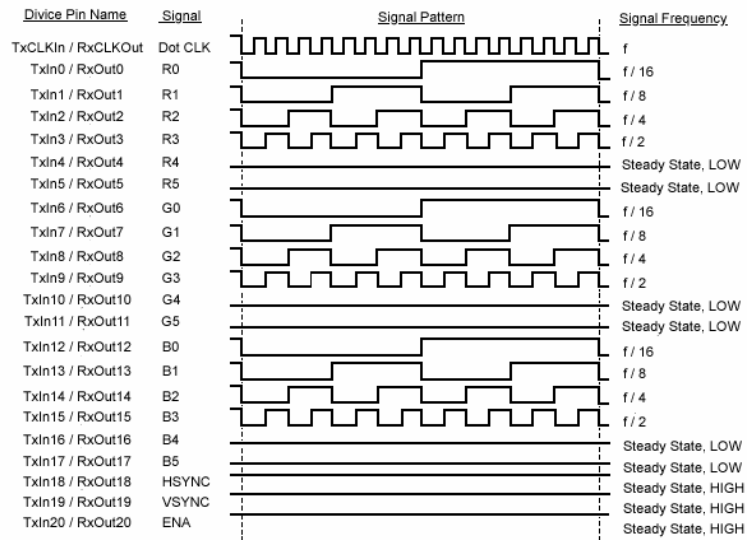

**Figure 24. Timing Diagram of Transmitter Clock Input with Jitter**
26. Test setup used considers no requirement for separation of RMS and deterministic jitter. Other hardware setup, such as Wavecrest boxes, can be used if no M1 software is available, but the test methodology in Figure 24 should be followed.